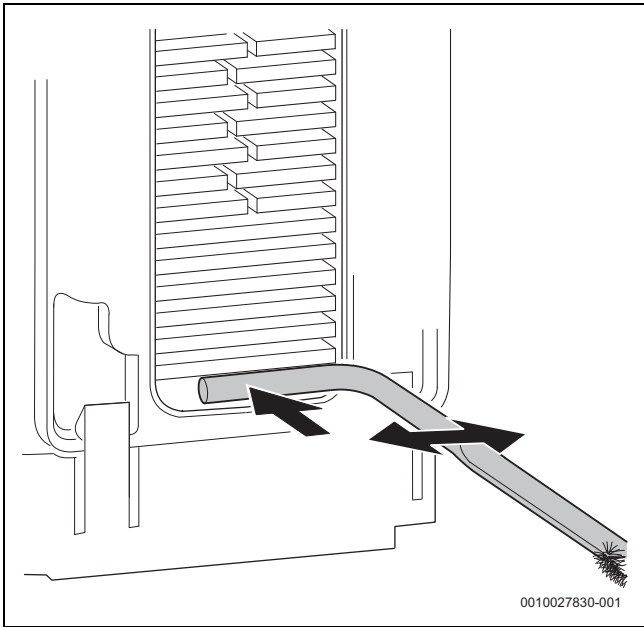

Fig. 88 Cleaning debris
- Use the handle of the brush to remove debris from the condensate tray (→ figure 88.).